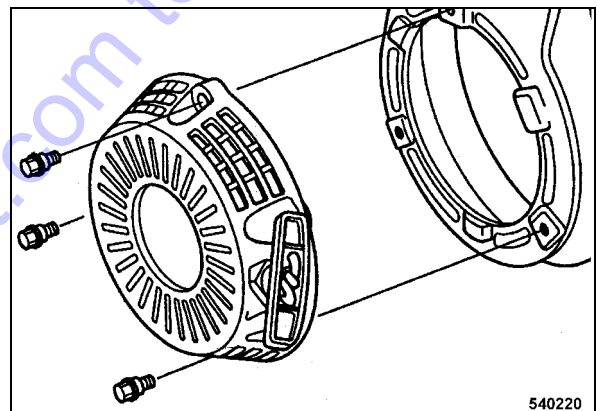

Fig. 44
- Remove the recoil starter (Fig. 44).